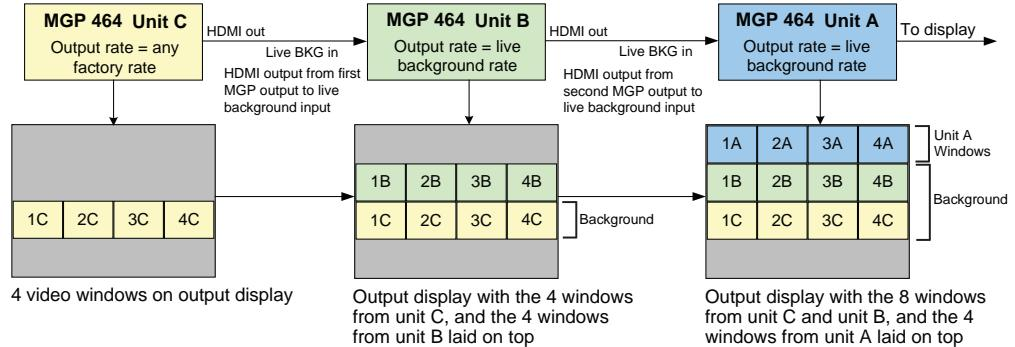

Figure 43. Daisy Chaining Application, 12 Windows
1. Attach the included rack/through-desk mounting brackets to the unit, using eight of the machine screws supplied with the mounting kit (see figure 43).